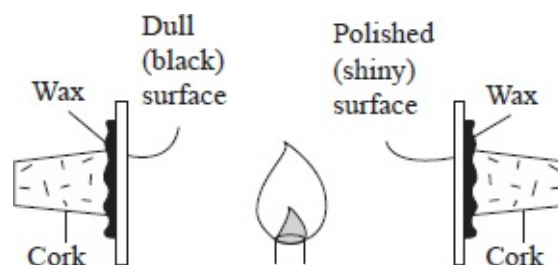

Fig. 7.28: Absorption of radiation
- Using wax, fix a cork on the reverse side of each plate, as shown in figure 7.28.